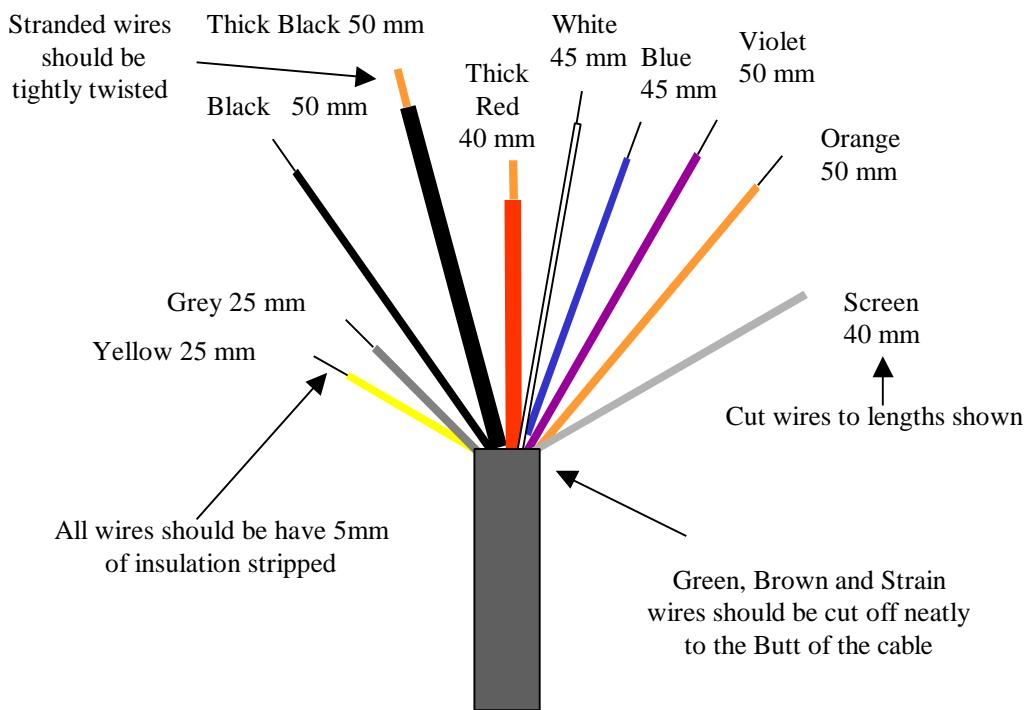

Figure 26. Wire Striping Dimensions for 80 Metre Drop Cable Lead-Out
4. Make sure that the free end of the drop cable reaches the junction box housing. Mark and cut to length and tailor the wire ends as shown in Figure 26.